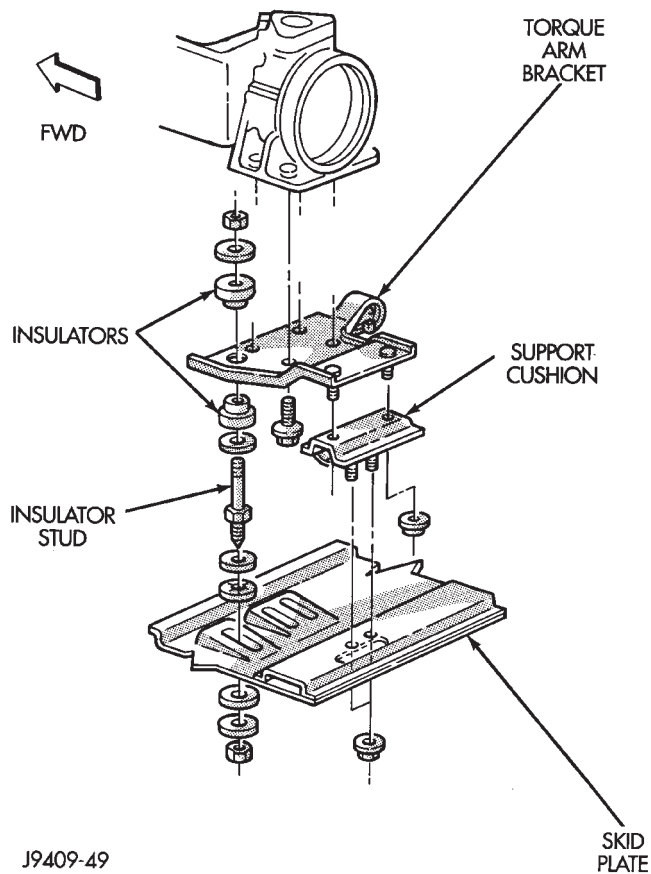

Fig. 11 Rear Mount—YJ Vehicles (Manual Transmission)
(1) Disconnect negative cable from battery.
(2) Raise the vehicle and support the transmission.
(3) **MANUAL TRANSMISSION (Fig. 11):**
(c) Position the insulator stud assembly and upper nut (Fig. 11). Position the skid plate to the studs of the support cushion and the insulator stud (Fig. 11). Install the support cushion stud nuts and tighten to 54 N·m (40 ft. lbs.) torque. Install the lower stud nut and tighten the upper and lower insulator stud nuts to 41 N·m (30 ft. lbs.) torque.